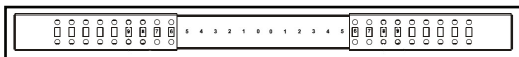

Figure 1
1. Align the **Corner Sections** (x 2) with the **Center Sections** (x1) and slide the **Corner Sections** overtop of the **Center Sections**. (Figure 1)